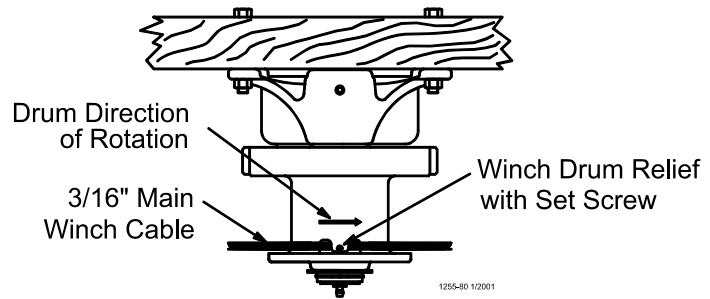

Figure 11. Attaching the Cable to the Power Winch
- Route the cable through the Winch Drum Relief located near the bottom of the drum. Tighten the set screw to anchor the cable to the drum. See Figure 11.